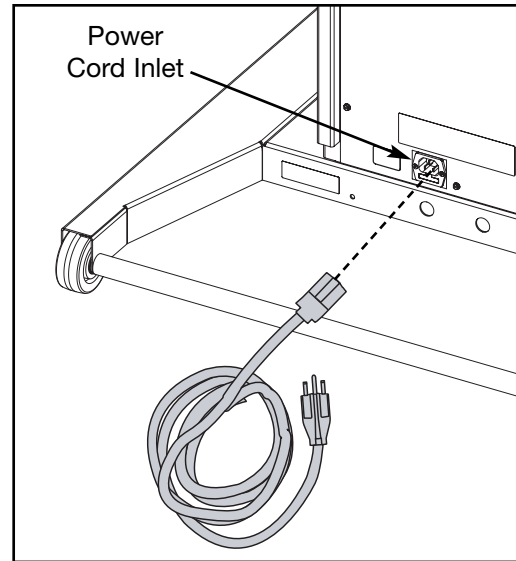

Figure 7
A. Plug the power cord into the inlet in the back of the unit. **NOTE:** Do not plug the power cord into an outlet at this time. See Figure 7.